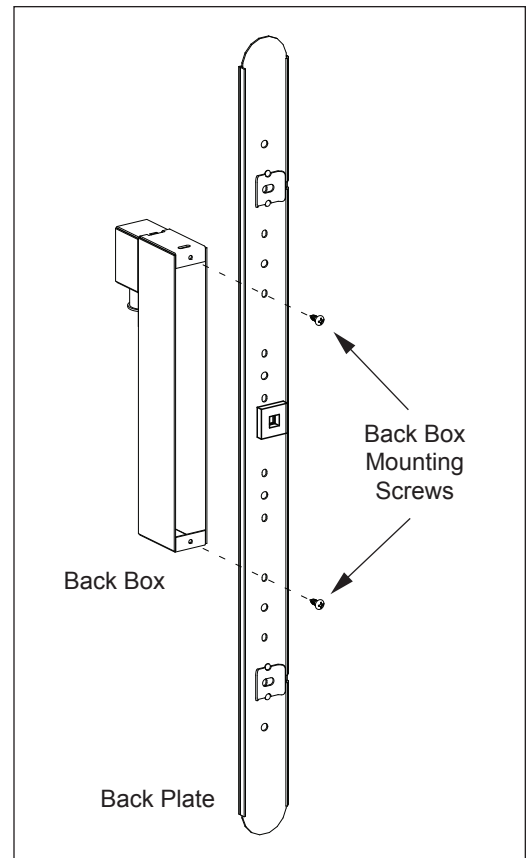

Figure 2
4. The Back Box attaches to the back surface of the Back Plate as shown in Figure 2 and recesses beyond the mounting surface when the Back Plate is fastened in place. The remaining holes marked with an "A", "B", "C", "D" or "E" on the template are used for attaching the Back Box to the Back Plate. Overlay the Back Box Template onto the Fixture Template to see how the Back Box can be positioned on the Back Plate. (The SL118 model only has one location for attaching the Back Box - location "C".) Before beginning the mounting process, be sure that there is no wall or ceiling obstruction that will interfere with the recessing of the Back Box.
3. Using the #8-1/2" Phillips flat head screws provided, attach the Back Box to the Back Plate as illustrated in Figure 2. Make sure that the Back Box is aligned with the attachment holes previously selected in Section B-Step 5. Be sure that the low voltage connector is inserted through the clearance hole in the Back Plate and all wires are tucked within the Back Box before finalizing the Back Box mounting.